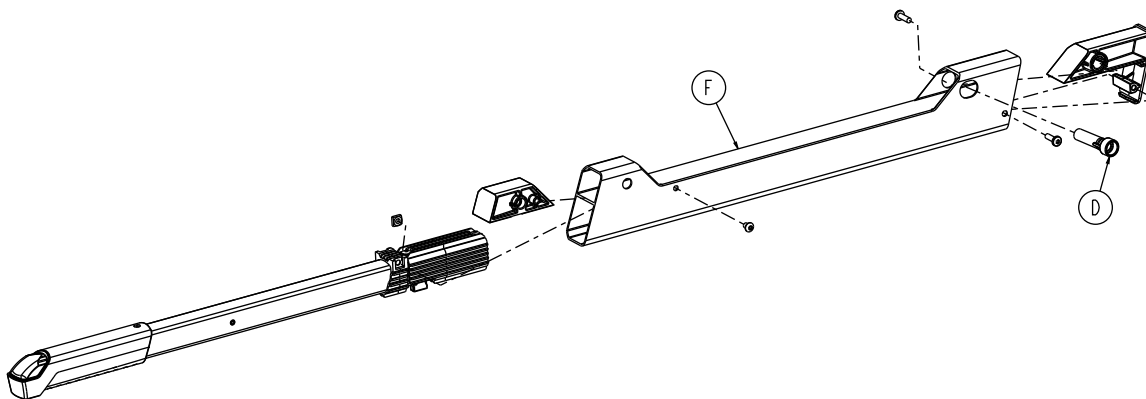
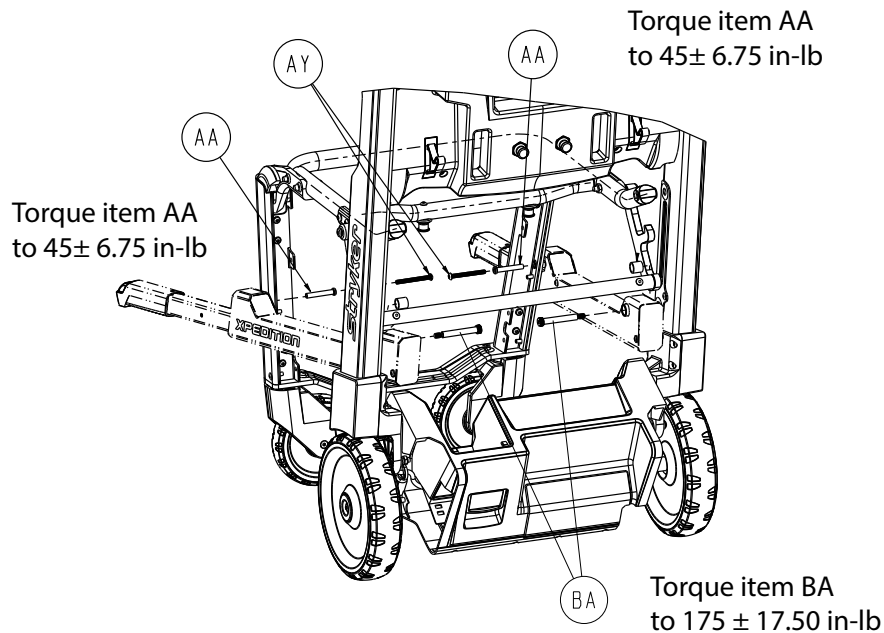

Figure 34 – Lower handle assembly, standard, patient right
Figure 35 – Common components assembly
7. Using a 5/32" hex wrench, remove the socket head shoulder screw (BA) and the lower handle spacer (D) from the lower handle outer housing (F) (Figure 34 and Figure 35). Save the screw and spacer.
8. Using a 1/8" hex wrench, remove the button head cap screw (AY) and lower handle flanged sleeve (AA) from the inside of the lower handle outer housing (Figure 35). Save the screw and flanged sleeve.